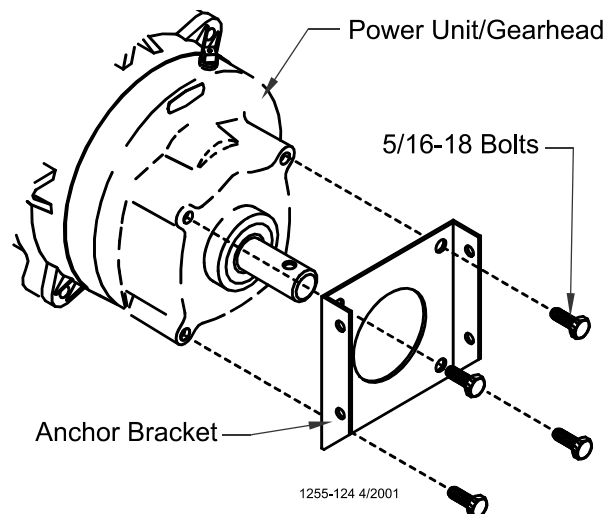

Figure 36. Assemble the Anchor Bracket to the Power Unit/Gearhead
3. Install the Anchor Bracket to the Power Unit/Gearhead, as shown in **Figure 36**, with the included 5/16-18 Bolts.